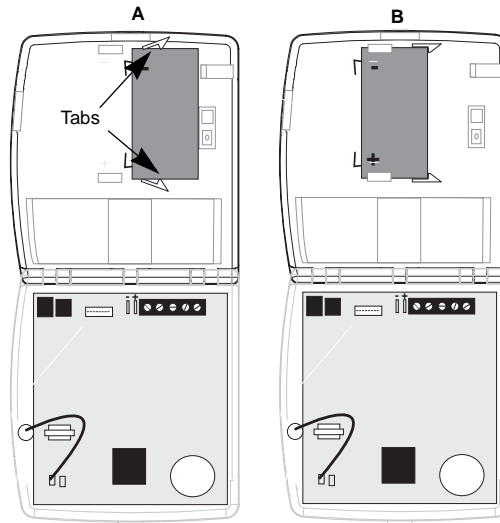

Figure 11. Installing the Panel Backup Battery
1. Position and push the battery between the 2 flexible tabs (A in Figure 11).
2. Slide the battery to the left until the tabs snap into place, securing the battery (B in Figure 11)